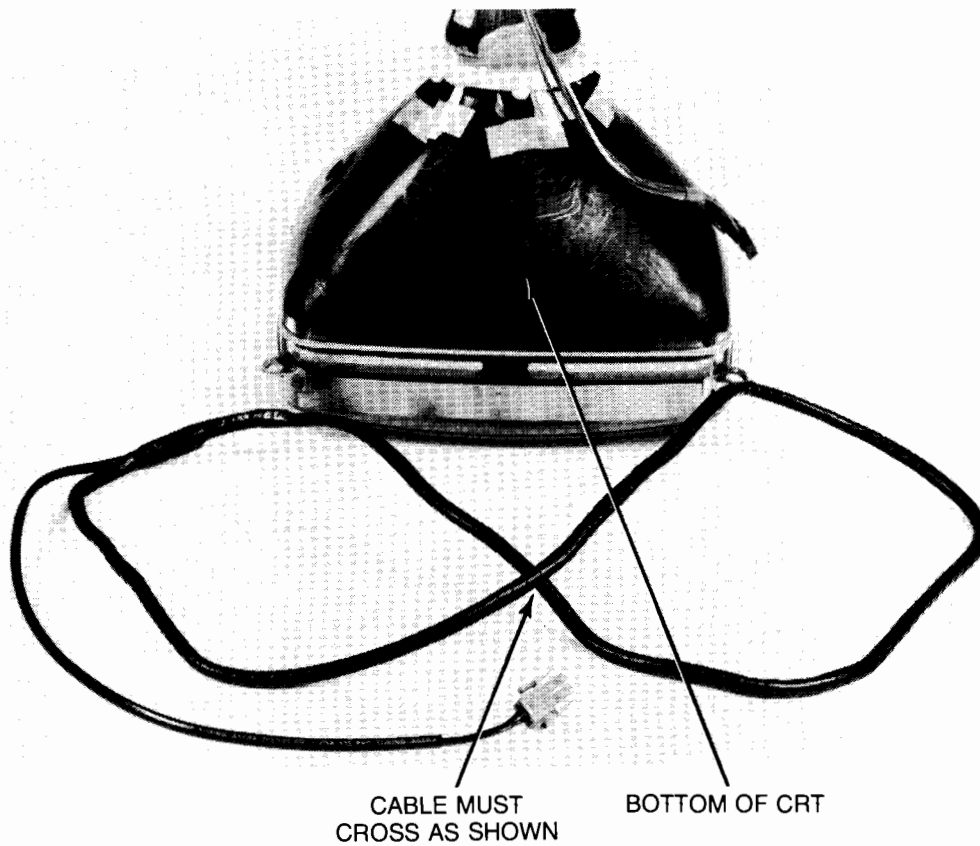

Figure 4-92. Preparing Degaussing Cable
1. Wrap degaussing cable around replacement CRT/yoke assembly exactly as shown in Figures 4-92 and 4-93.